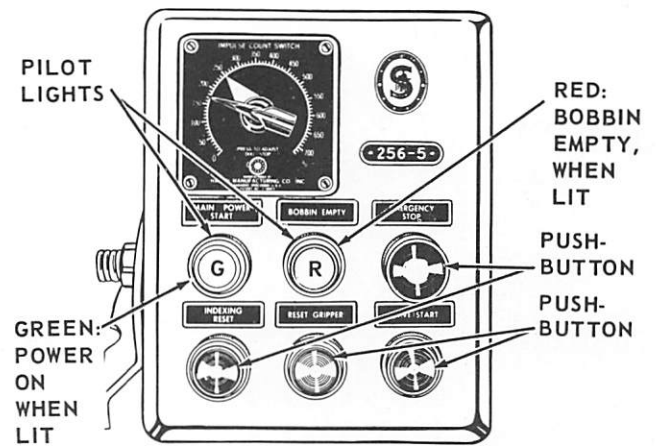

Fig. 16. Control Panel
**WHEN PRE-SET NUMBER OF BUTTONHOLES HAVE BEEN SEWN,** counter-arrow reaches "0" on dial at top-left corner of control panel shown in Fig. 16. At this moment the **RED PILOT LIGHT** on panel lights up, indicating "BOBBIN EMPTY", and machine stops. **AUTO-START** button is now inoperative.